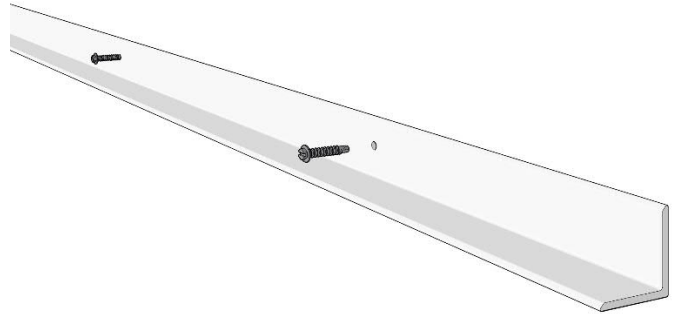

FIG. 4
3. Attach the **Wallrail** to the wall (structure) with specified or appropriate fasteners (non-corroding) at a minimum of 16" O.C. (406.4 mm) spacing but typical into studs or provided blocking. Pre-drill the **Wallrail** as required at mounting locations. Locate structural members as required for a sound installation. **FIG. 4**